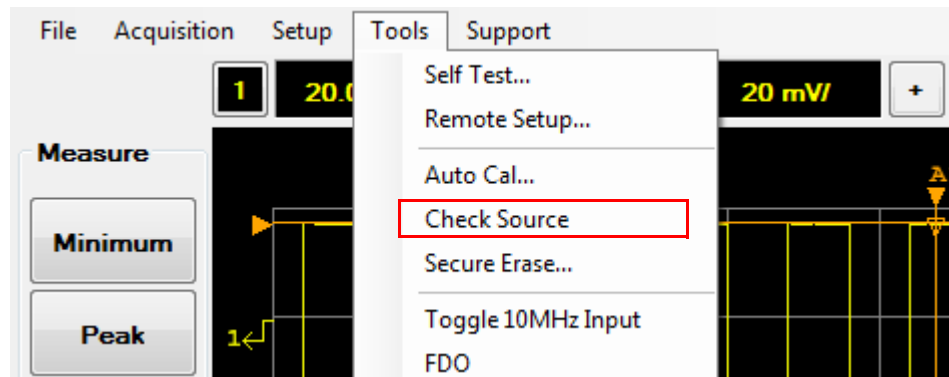

Figure 2-96 Check Source selection in the Tools menu
- 1 Select **Tools > Check Source** on the toolbar as shown in Figure 2-96.